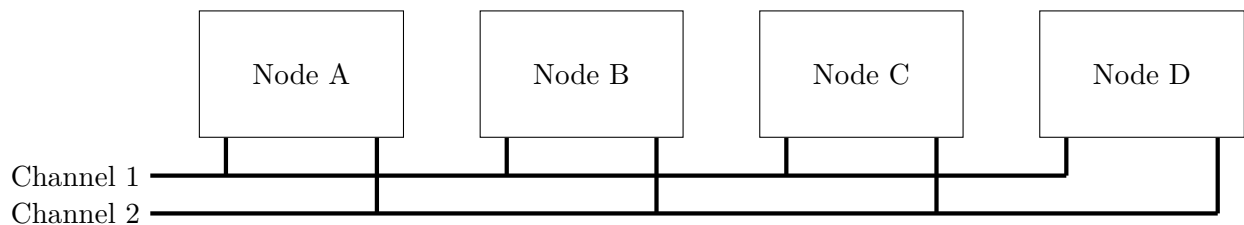
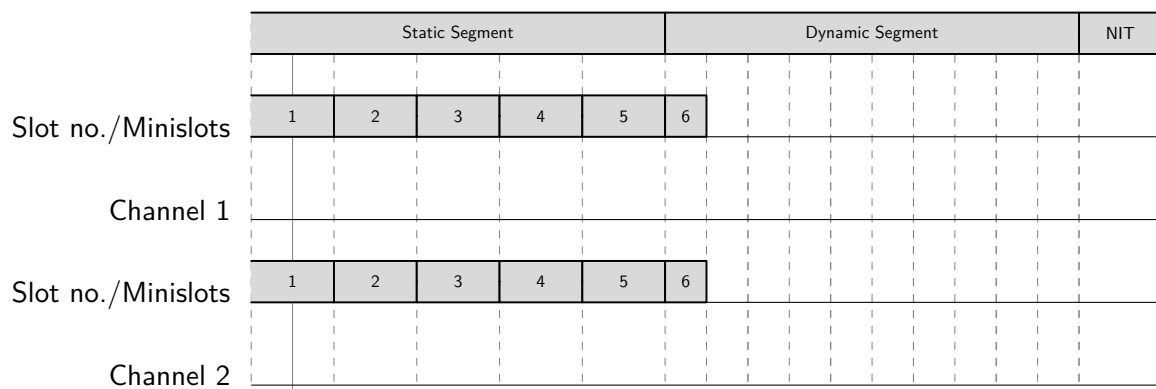

Figure 3.1: Flexray Topology
Figure 3.2: Signal sequence
In this task we want to investigate the data transmission and scheduling with Flexray. The used topology is shown in Figure 3.1. Additionally, the slot durations for the scheduling are given in Table 3.1.
A) In Table 3.2 the nodes shown in Figure 3.1 and the assignment of their available frames to the static slots are given. Complete the signal diagram in the Figure 3.2 and perform the static scheduling of the frames according to the Table 3.2.
- B) Calculate the duration of a complete communication cycle! Assume a Network Idle Time (NIT) of $1\mu s$ and that all minislots depicted in Figure 3.2 are idle!
- D) In Table 3.3 the parameters for the dynamic segment are given. Complete the signal diagram in the Figure 3.2 and perform the dynamic scheduling of the frames for Channel 1 and Channel 2 according to the Table 3.3. Number the minislots with slot IDs dependent on the length of your scheduled frames. Note that each channel offer its own minislots for transmission.